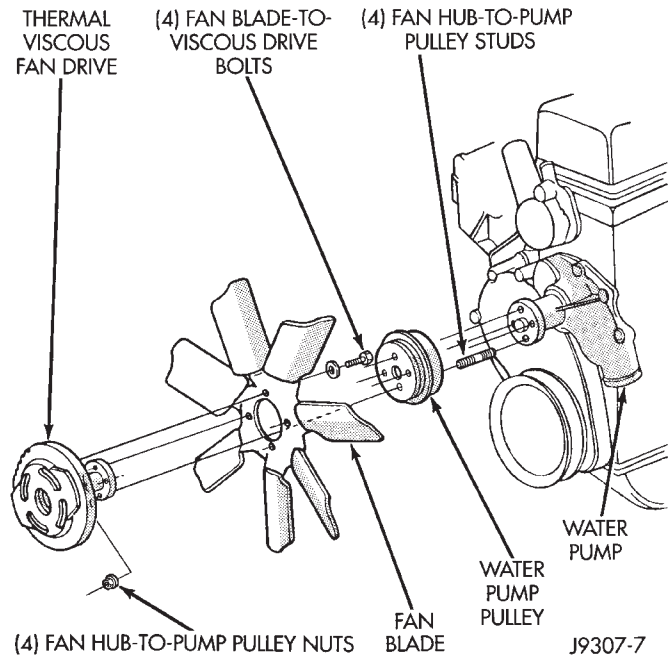

Fig. 25 Fan Mounting Nuts
(6) Loosen (but do not remove at this time) the four fan hub-to-water pump pulley mounting nuts (Fig. 25).